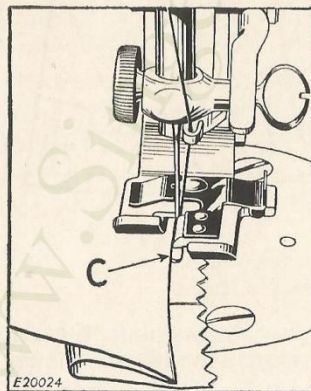

FIG. 258. BLENDED CIRCULAR INVISIBLE HEM WITH PINKED EDGE BEING BLIND STITCHED
- g—Place the pinked or raw edge of the hem under the attachment with the fold against the guide (C), as shown in Fig. 258. Adjust the guide (C) according to the material to be blind stitched as instructed on page 150. Then lower the presser bar and commence sewing, carefully guiding the **fold** of the garment against the guide (C) so that the straight stitching will be made **only** in the single thickness of the pinked or raw edge and the tacking or sidewise stitches will be made in the fold of the garment, as shown in Fig. 259.